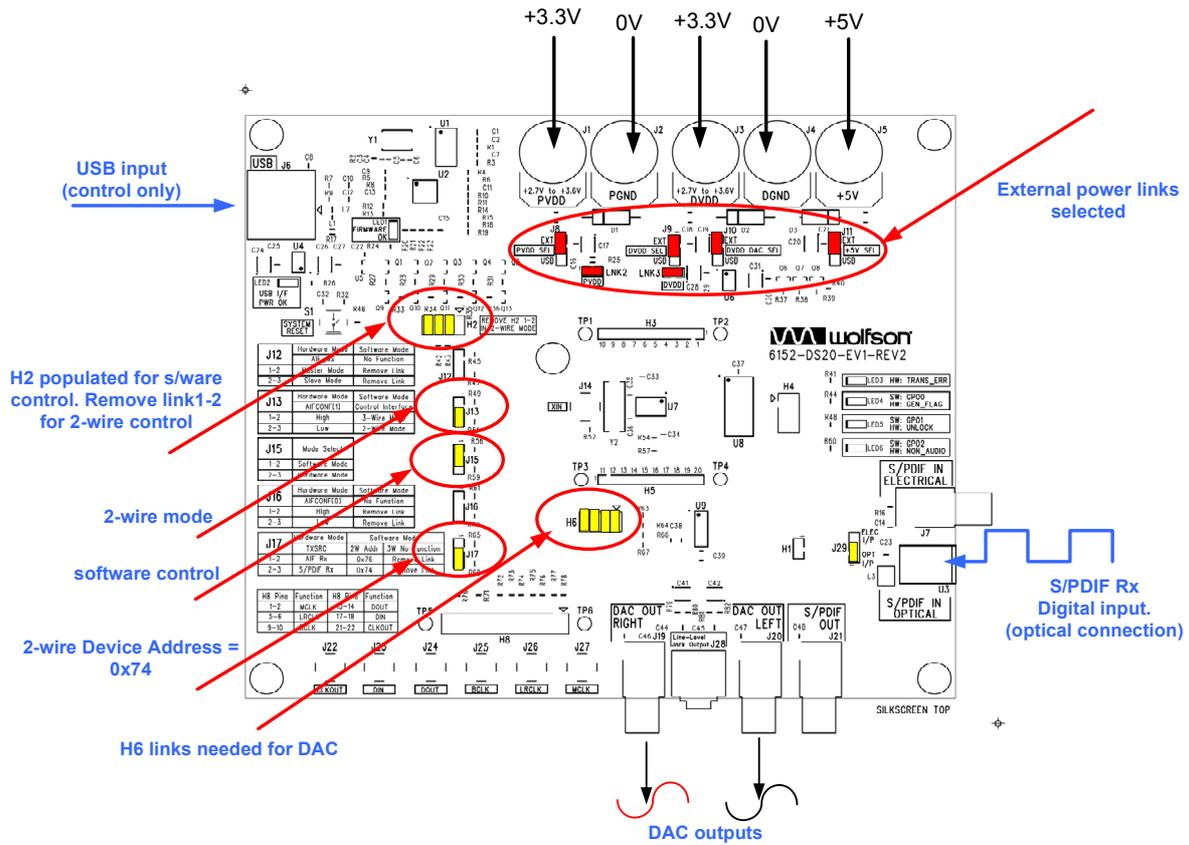

Figure 11 DAC Evaluation Board Configuration
- Figure 11 illustrates the jumpers which must be made on the board. The jumpers needed for external power supply are detailed in Table 1